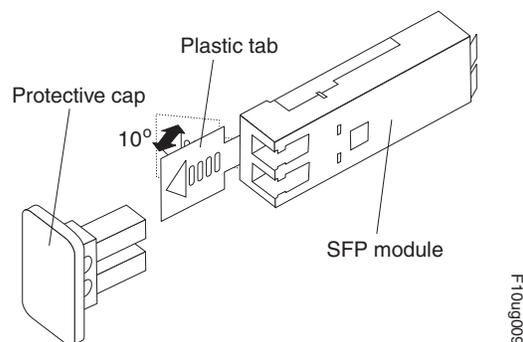

Figure 97. Unlocking the SFP module latch - plastic variety
- For SFP modules that contain plastic tabs, unlock the SFP module latch by pulling the plastic tab outward 10°, as shown in Figure 97.